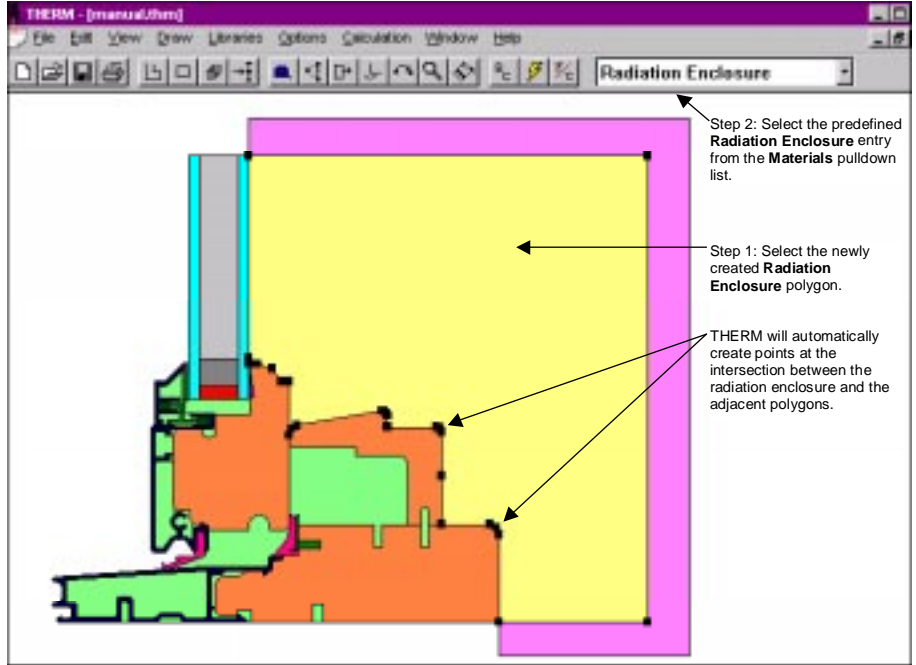

Figure 5-58. Assign the predefined material **Radiation Enclosure** to the **Radiation Enclosure** polygon.
4. Select the polygon that is created by using a single click of the left mouse button, as shown in Figure 5-58. Assign the material of the radiation enclosure polygon from the **Materials** pull-down list on the right side